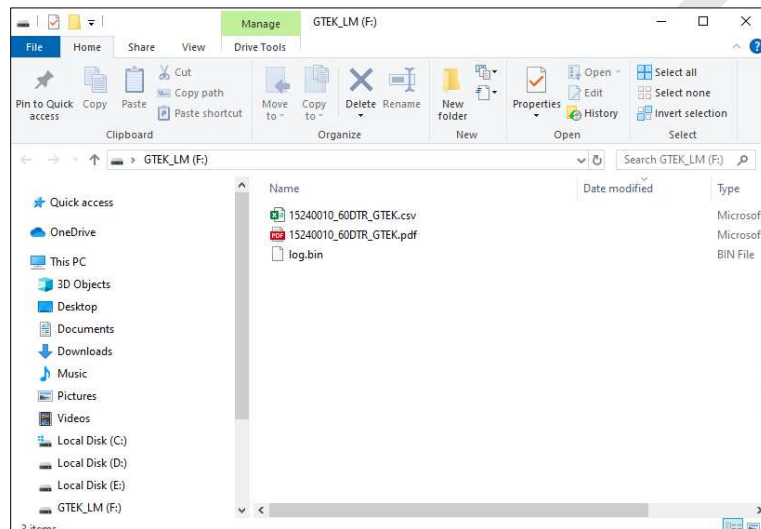

Figure 21 Detected as USB Mass Storage drive
- Once the data logger is connected with the PC, USB Mass storage drive window will pop up as shown in figure 21, showing PDF/CSV report and Log data bin file within approx. 30 seconds.